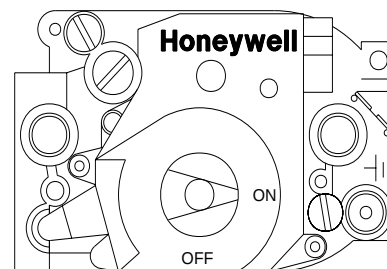

Figure 2.
7. Wait five (5) minutes to clear out any gas. If you then smell gas, **STOP!** Follow "B" in the safety information on page 5. If you don't smell gas, go to the next step.
8. Turn knob on gas control counterclockwise  to "ON"; see Figure 2.